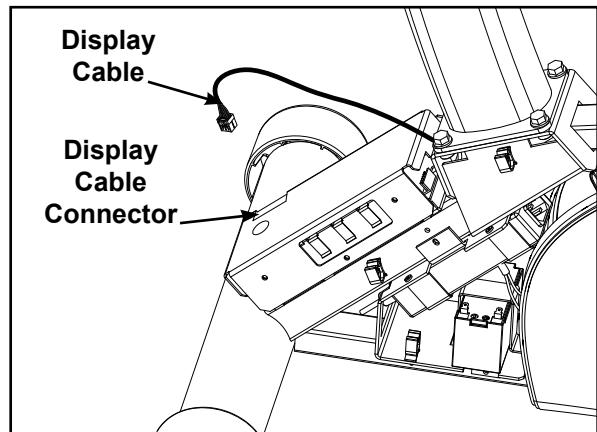

Figure 4
- G. Plug the display cable into the display cable connector on the lower control board. See Figure 4.